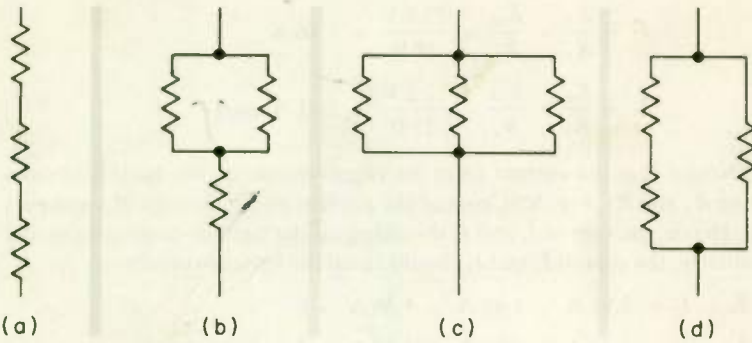

Fig. 7
3. Four methods of connecting three resistors for different total resistance are shown in Fig. 7. Suppose all resistors are 100 Ω . The total resistance in Fig. 7(a) is (a) 300 ohms; that in Fig. 7(b) is (b) 150 ohms; that in Fig. 7(c) is (c) 33.3 ohms; and that in Fig. 7(d) is (d) 67.3 ohms. Thus to connect three resistors of equal value in such a way that the total resistance is one-third the resistance of one of them, you would connect them as shown in (e) 7c; if one and one-half times the value of one, as shown in (f) 7b; if two-thirds the value of one, as shown in (g) 7d; and if three times the value of one, as shown in (h) 7a.